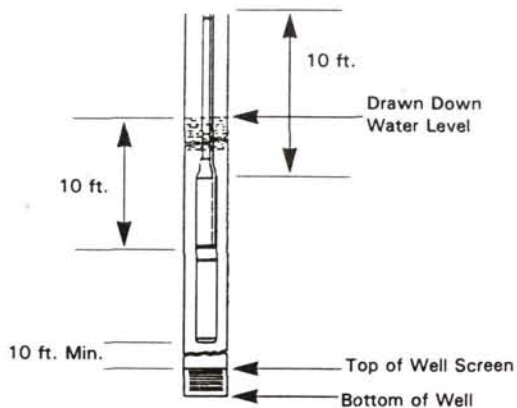

Figure 4
8. The complete pump and motor should be submerged at least ten feet below the draw down level of the well, and the motor should be a minimum of ten feet off the bottom of the well (Figure 4).